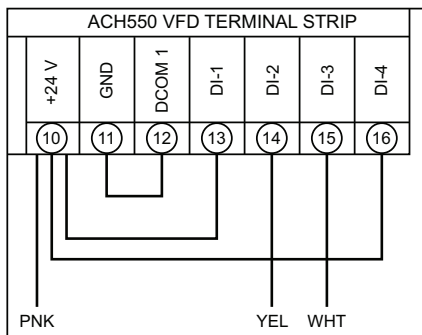

Fig. 29 — ACH550 VFD Wiring
- For ACH550 VFDs the voltage is sourced from the VFD at its terminal 10 (+24 V). SAV speed inputs are received at terminals 14 (DI-2) for low speed (40 Hz) motor operation and 13 (DI-3) for high speed (60 Hz) motor operation. See Table 13 and Fig. 29 (on page 21).